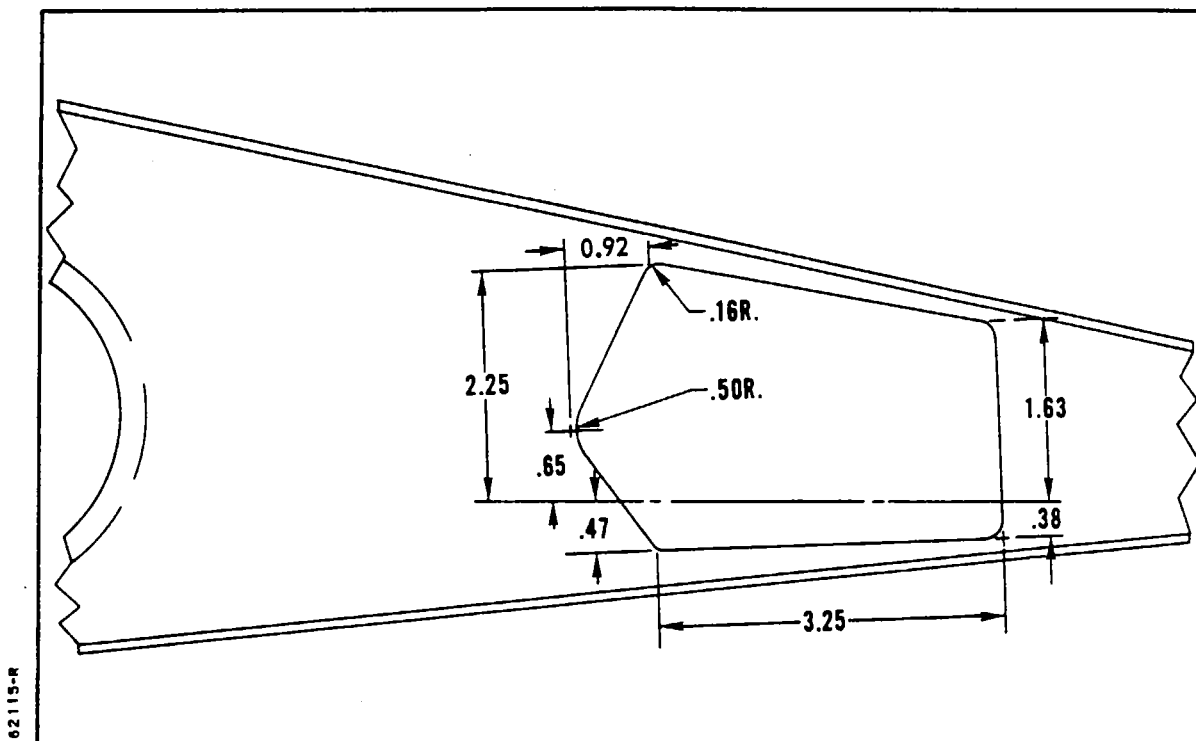

Figure 4-11. Wing Rib Modification
4-27. AILERON BALANCE WEIGHT MODIFICATION. (PA-32-260, Serial Nos. 32-1 to 32-1118 incl; PA-32-300 -300S, Serial Nos. 32-40000 to 32-40619 incl.) To facilitate the use of new aileron balance weight assembly (P/N 66766-00) on above stated airplanes, it will be necessary to modify the balance weight cutout in the wing rib. (Refer to Figure 4-11.) The hole pattern in the new balance weight bracket is the same as the old bracket with the exception of two holes. When replacing the old bracket with the new one, it is permissible to use the new bracket as a hole template to drill the two new holes at their proper location. To install the balance weight assembly, the following procedure may be used:
- c. Modify the wing end rib balance arm hole as shown in Figure 4-11.